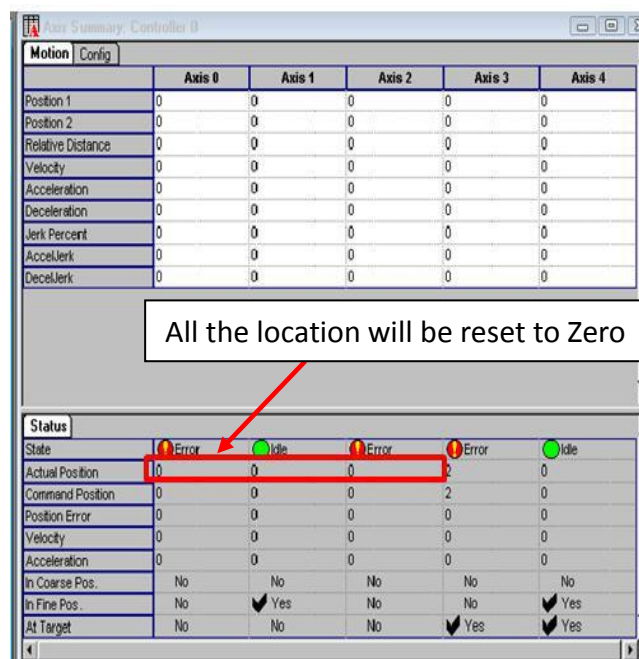

Figure 10 Axis Summary (Actual position)
9. Once performed the reset for all the axis, the actual position for MS0, MS1 and MS2 will become zero as shown in Figure 10.